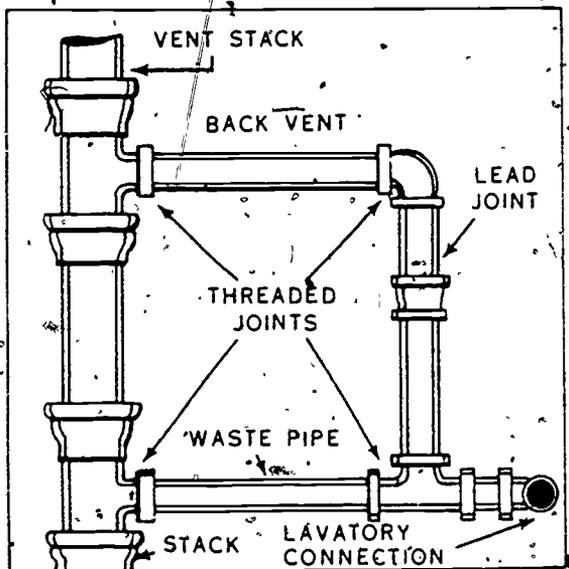

Figure 2-25 Lavatory back-vented
**Back vent.** In most one-story plumbing installations where the lavatory is near the stack, it drains through a waste pipe into the soil or waste stack. The lavatory is then vented into the stack above the drain, as shown in figure 2-25. This is referred to as a back vent
**Exercises (224):**